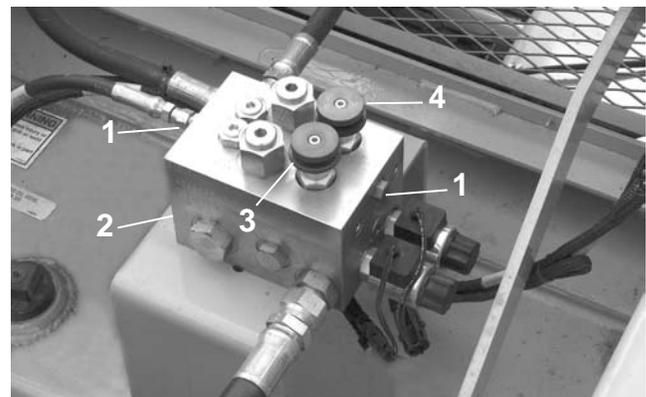

Figure 34. Conveyor Block
1) To adjust the speed of the conveyor (left or right) loosen jam wheel by hand on the flow control valve for the conveyor to be changed. The adjustments are located on the conveyor manifold on the hydraulic reservoir (Fig 34 Ref 2 & 3). Turn the adjuster knob clockwise to decrease conveyor speed or counterclockwise to increase speed. Tighten jam wheel once the conveyor speeds are set.